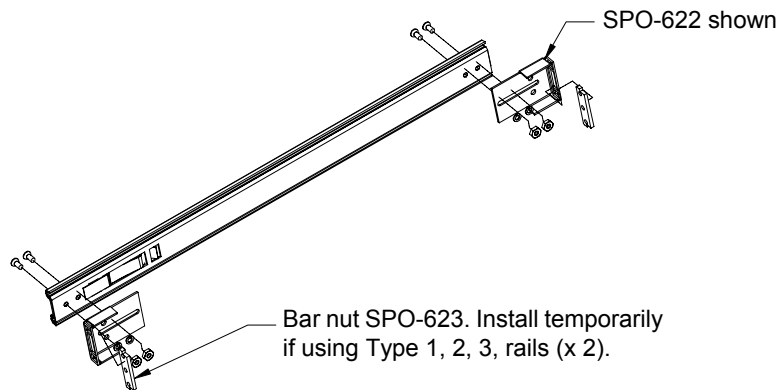

Figure 7 Attaching Front And Rear Bracket To Cabinet Section
5. Attach front and rear brackets to cabinet section (see Figure 7) using the following materials supplied with the slides: